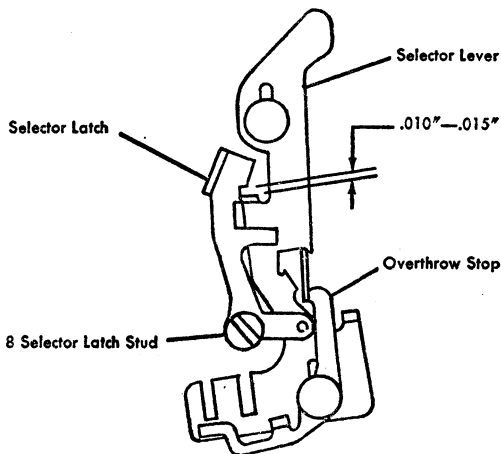

Figure 4. Selector Latch Adjustment
8. ADJUST THE SELECTOR LATCH by moving its fulcrum stud up or down in an elongated hole. With the overthrow stop actuated and the selector lever pressed down against it, adjust the latch until there is a .010" to .015" clearance between the selector lever and the upper notch in the selector latch (Figure 4).